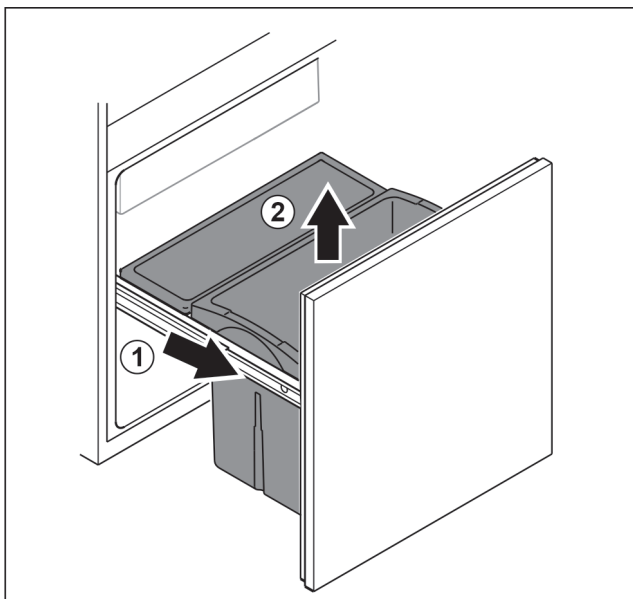

Fig. 87
- ▶ Remove the pull-out unit as far as it will go. Fig. 87 (1)
- ▶ Remove drawer upwards. Fig. 87 (2)